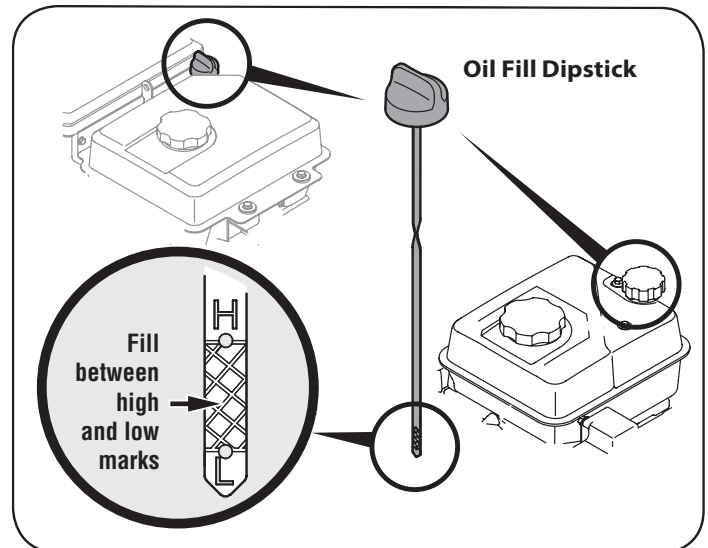

Figure 21
3. Remove the oil filler cap/dipstick. If level is low, slowly add oil until oil level registers between high (H) and low (L). See Figure 21.